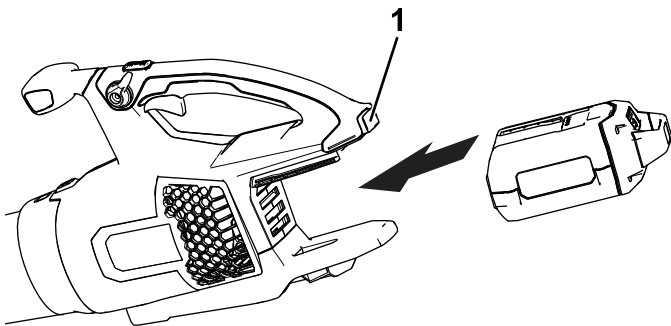

Figure 5
2. Align the cavity on the battery pack with the tongue in the handle housing (Figure 5).